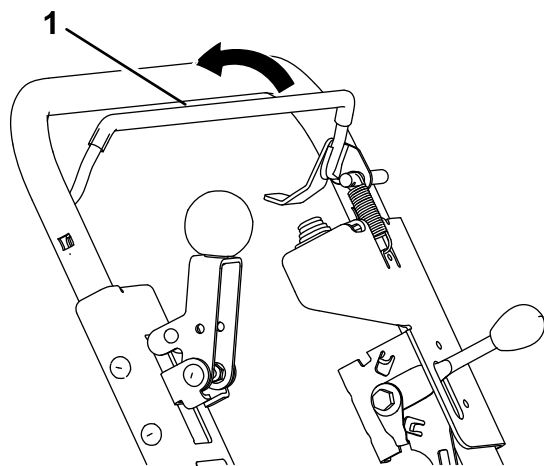

Figure 7
- To start the machine, hold down the operator-presence bail (Figure 7). Continue to hold down the operator-presence bail to allow the machine to run.